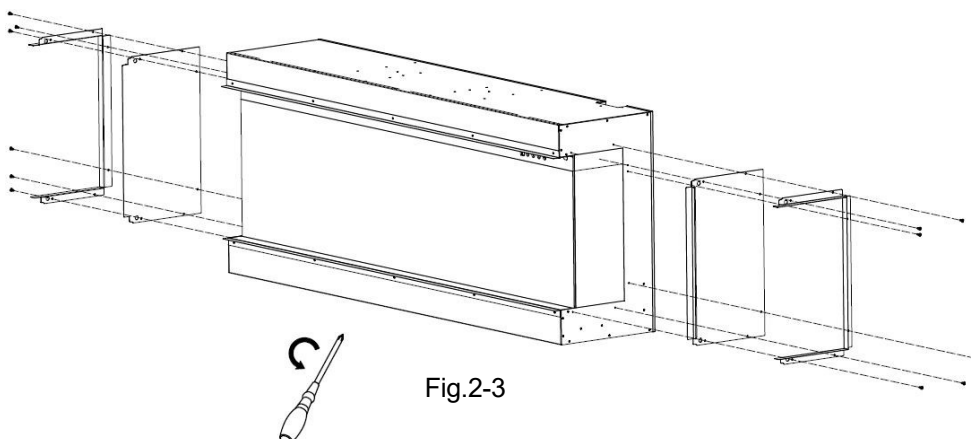

Fig.2-3
2. Take off the fending bars and panels if you want to view the fire from three sides. Fig.2-3